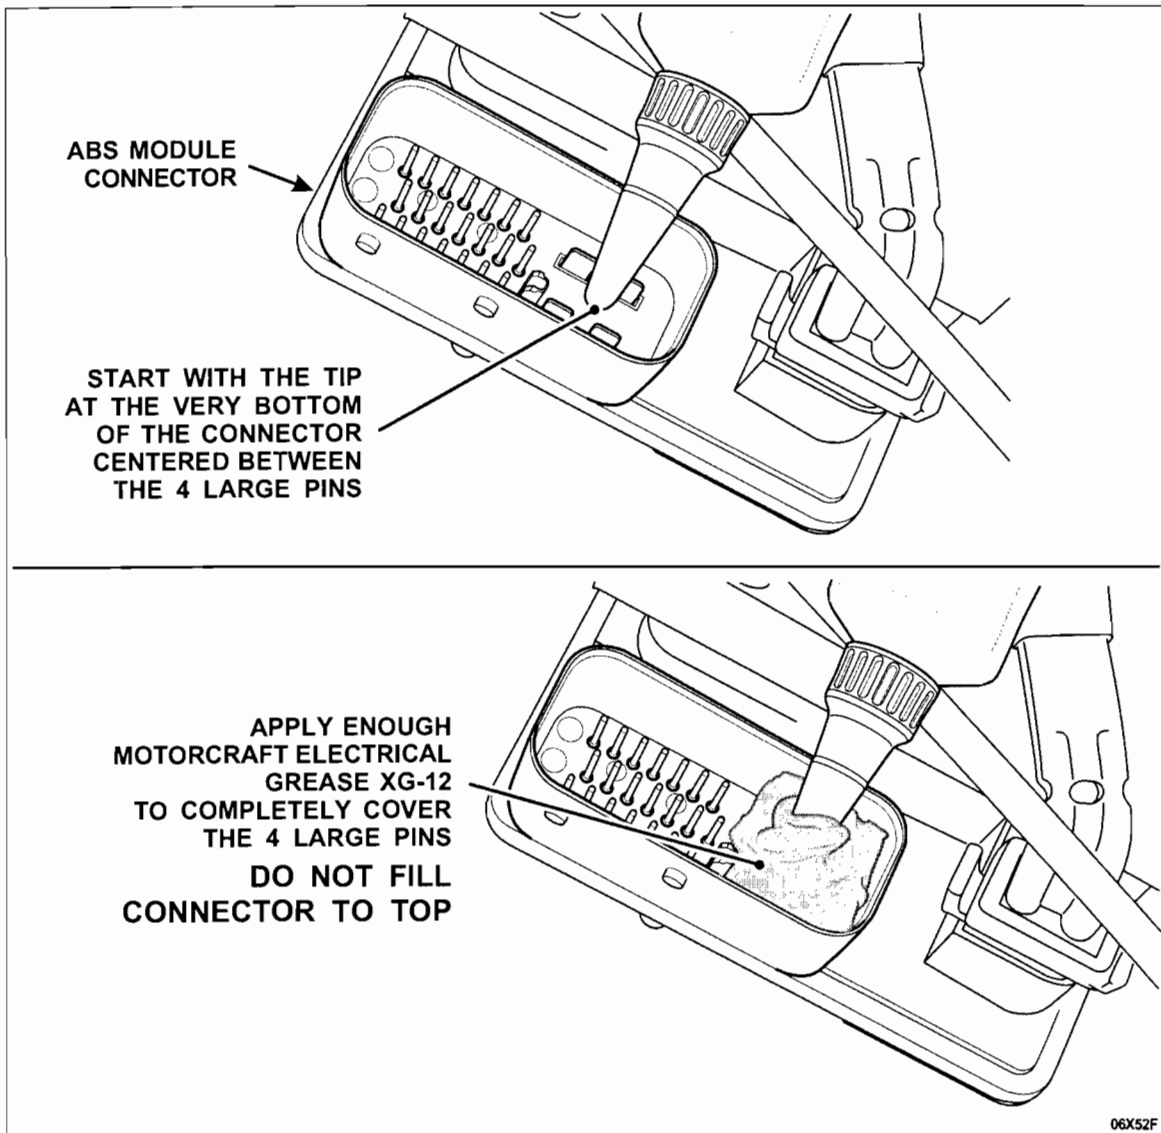

FIGURE 23
- b) Use ONLY Motorcraft Electrical Grease XG-12. See Figure 23.
- With the tip of the applicator tube snipped off, position the end of the tip between the 4 large flat pins at the bottom of the ABS module connector. Squeeze out enough grease to completely cover the 4 flat pins. See Figure 23. DO NOT spread the grease around the connector. Applying an excess amount of grease into the connector cavity will cause a "hydro lock" condition in which the connector will not be able to be seated fully or locked in place.